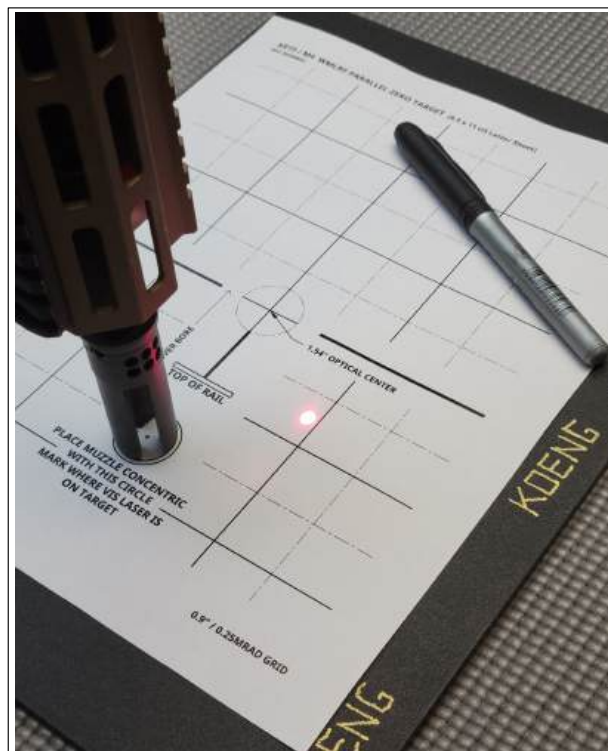

FIGURE. 1 With the WMLRF mounted at 3 o'clock, the laser offsets in MRAD from the optical center are 0.3D, 0.4R.
2. Place the target sheet on a flat surface (FIGURE 1). Stand your system up and place the muzzle concentric to the designated area on the target sheet. Turn on the visible laser and mark where the laser is on the target sheet. Capture the Elevation and Windage offset readings in MOA or MRAD with respect to the optical center of the target sheet. It is advisable to round the offsets to the nearest 0.25 MOA or MRAD, or your riflescope's per adjustment click value. For example, in FIGURE 1, the laser offsets in MRAD are 0.3D, 0.4R. *